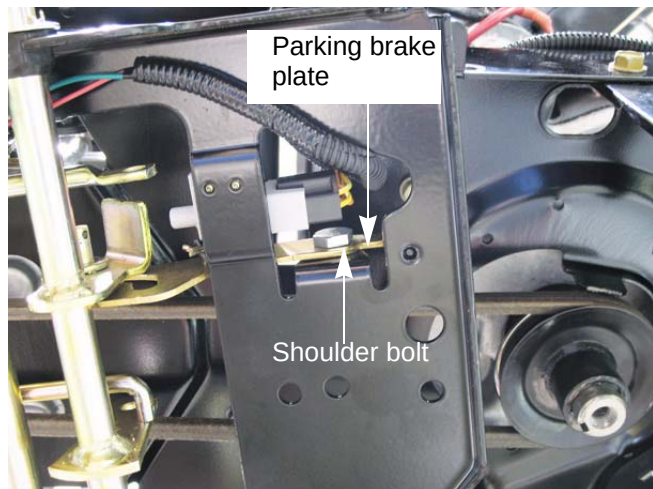

Figure 3.15
4. Loosen the shoulder bolt that the parking brake plate pivots on. See Figure 3.15.